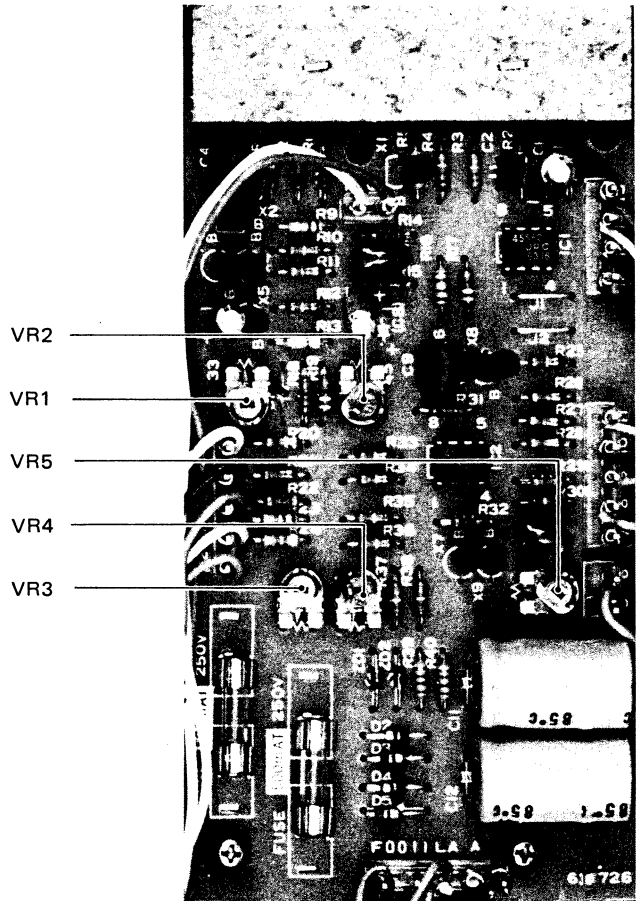

Fig. 4-9 MOTOR CONTROL PCB of P-7
**NOTE:** All adjustors are provided on the MOTOR CONTROL PCB (Figs. 4-9 and 4-12).